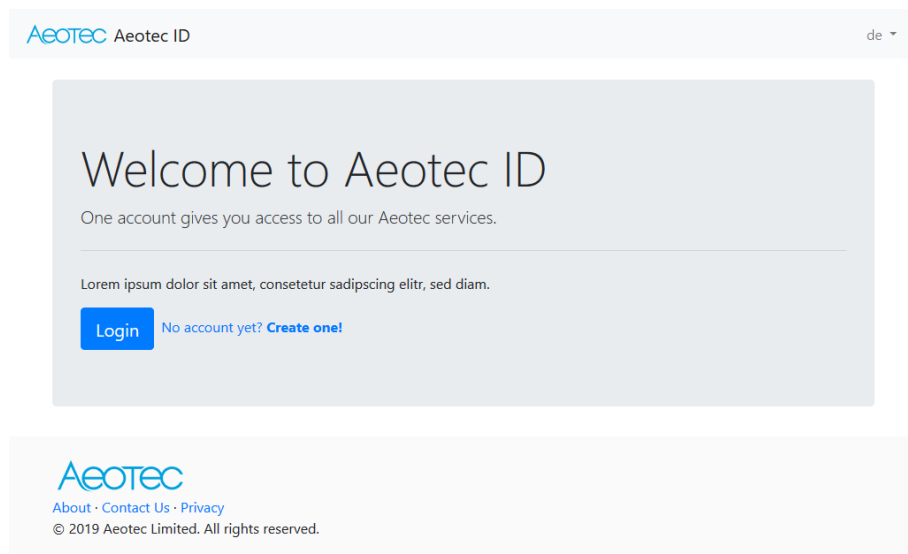

Fig. 2: Homepage: <https://id.aeotec.com>
→ You will be redirected to <https://id.aeotec.com> (Figs. 2 and 3)
5. Login with your credentials to AEOTEC ID™ (Fig. 2) to connect the AutoPilot™ to your account
- Click on **No account yet? Create one!** (Fig. 2 and 3)